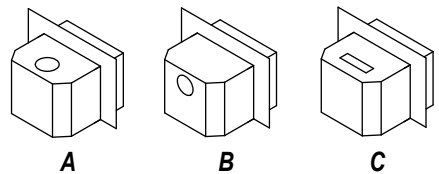
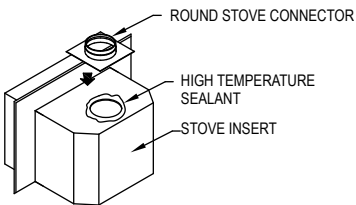
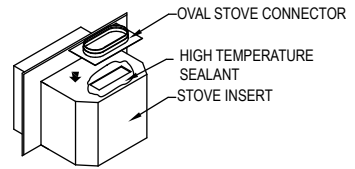

Figure 3
Figure 11a
Figure 12
8. After selection of proper size appliance, determine the correct size of DuraLiner and Stove Connector to the appliance. (Follow stove manufacturer's recommendations). There are three different types of connections: (**See Figure 3**).
STEP FIVE: Stove top connector - round and oval. Attach the proper Stove Connector to your insert or stove. (See Figure 3) The DuraLiner round Stove Connector fits either a top vented found flue appliance or a rear vented round flue appliance. Place the proper sized connector over the flue exit and mark on the insert or stove the locations of the holes where the connector will be attached. (See Figure 11a or 11b)
Drill and tap hole in top or rear of appliance or use self tapping screws. Before attaching permanently, put a bead of high temperature sealant between stove connector and insert. (See Figure 11a and 11b)
The DuraLiner oval Stove Connector fits on top vented appliances or inserts with oval or rectangular openings. (See Figure 12) Attach same as in round openings. (See Figure 11a)